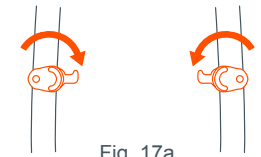

Fig. 17a
- 17)•** Fully recline seat back and turn car seat support tabs on the stroller frame (Fig 17a).